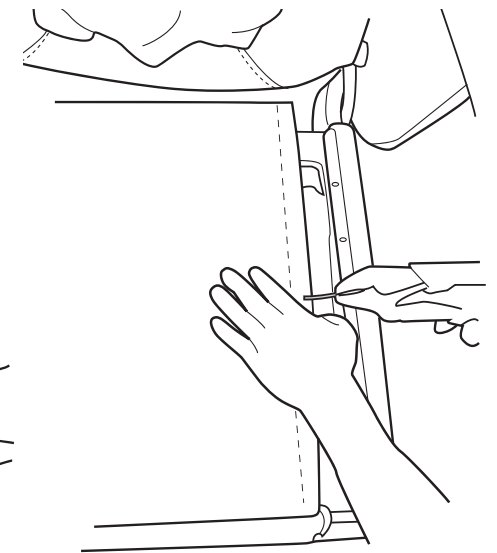

Fig.9
9. Use a vice grip to replace each of the springs on the opposite side of the seat canvas (Fig.9), again being sure to hook the curved side of each spring through the hole in the canvas. If the tension is too tight, bend the outside end of the spring to slightly increase the angle, making it easier to install the spring.